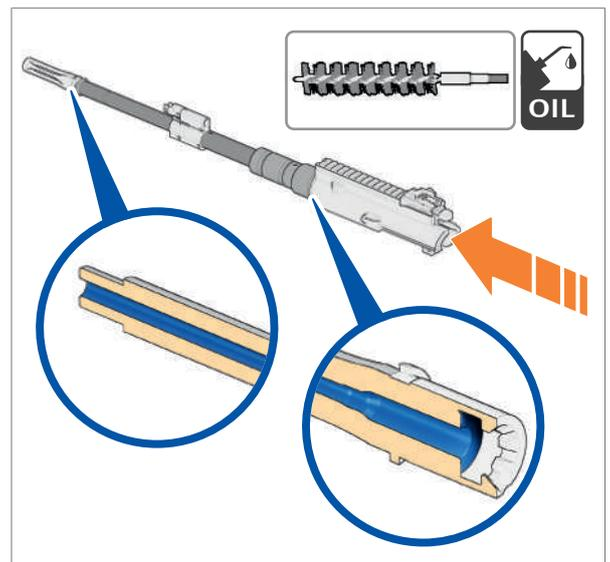

Fig. 111: Lubricate the inside of the barrel
22. Pull lubricated oil brush through barrel to preserve the barrel (*Fig. 111*).